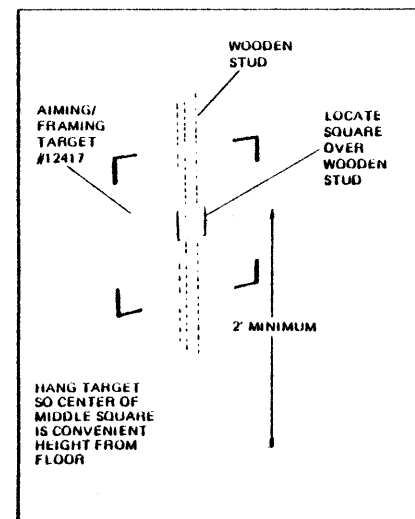

FIGURE 2-7. SETTING UP AIMING & FRAMING TARGET
2. Hang Aiming & Framing Target #12417 as shown in Figure 2-7.